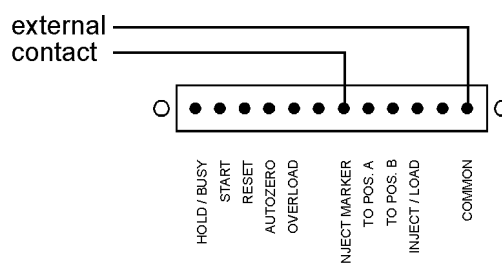

Fig. 11. External contact to start the integrator by switching the automated (built-in) VALCO valve.
1. Connect the hardware trigger of the integrator to the 'Inject marker' on the rear panel of the EC2000 as indicated in (Fig. 11).